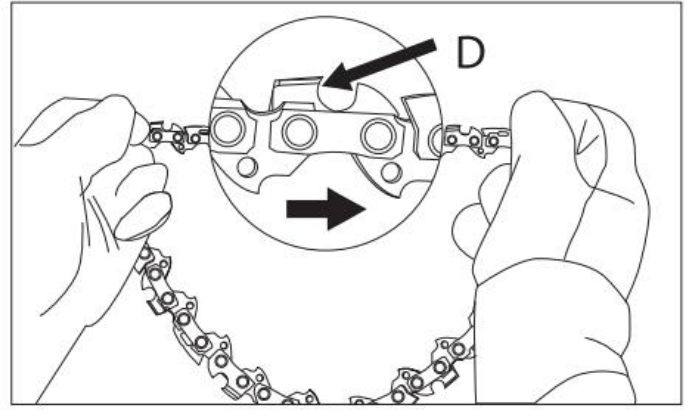

Fig. 6
5. Spread the chain in a circle with the cutting edges (D) aligned with the markings on the guide bar (fig. 6).